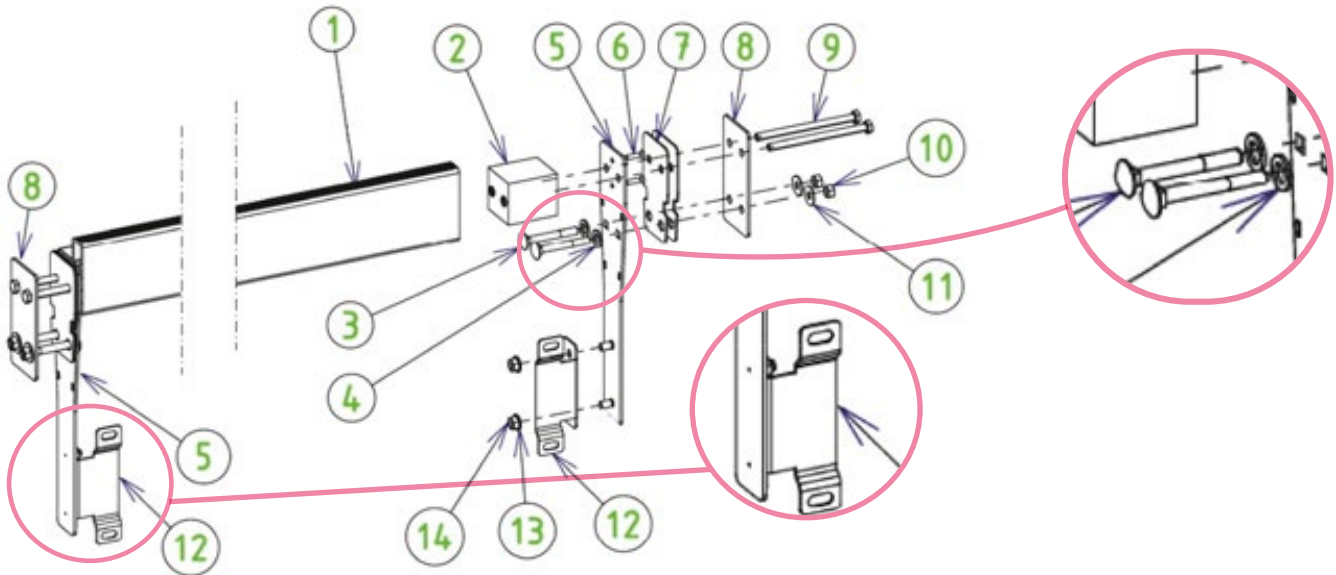

Figure 41 – Assembling and mounting the beam
Fasten the two pit wall mounting brackets (12) to the beam mounting plates (5) using four nuts (14) and four 8 mm diameter A4 SS washers (13). The protruding parts of the pit wall mounting brackets (12) that feature a slot should be located on the side opposite the skimmer and the automatic cover axle (see the zoom focused on the pit wall mounting brackets (12) in Figure 41
Lastly, fasten the pit wall to the brackets (part 12 in *Figure 41*) using four 8 × 16 stove screws (7), four washers and four 8 mm diameter A4 SS nuts.